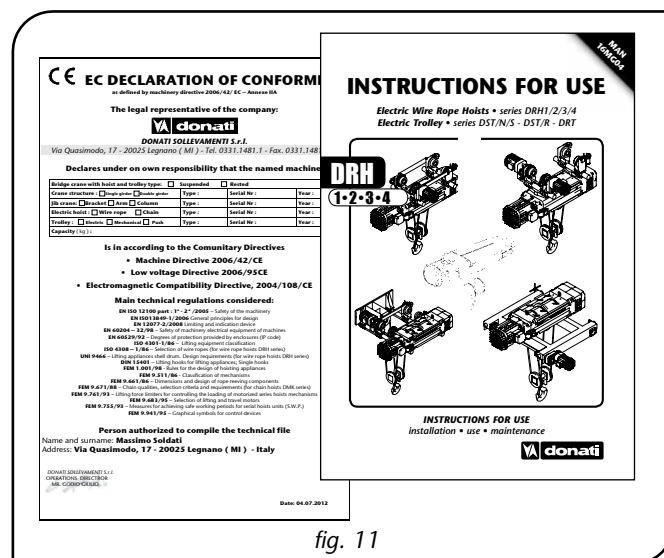

fig. 11
- Technical/legal documentation which comes with the hoist includes (fig. 11):